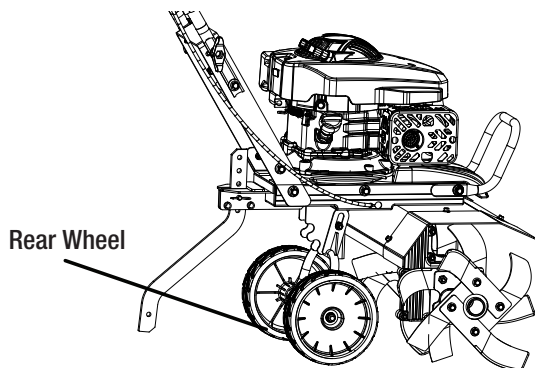

Figure 1-1
- Pull the rear wheel downward so that the rear wheel can rotate freely, then lift the rear wheel bracket to the proper position. The rear wheel bracket will automatically attach with the spring. See Figure 1-1.